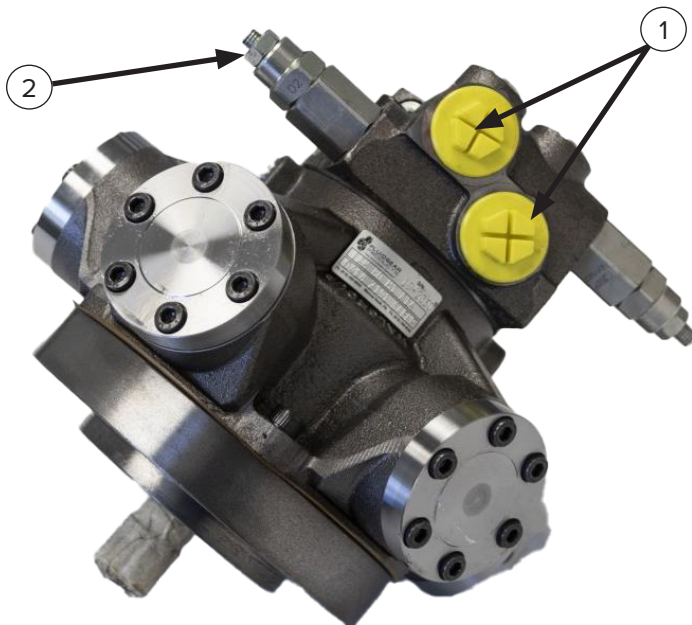

Figure 6
- Flip the hoses and reconnect to the motor (Item 1) [Figure 6].
- Remove the Relief Valve Cartridges and swap their positions. There is one on either side of the motor (Item 2) [Figure 6].